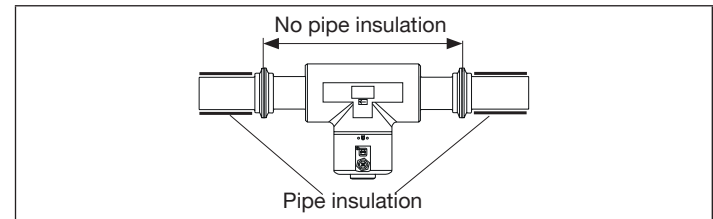
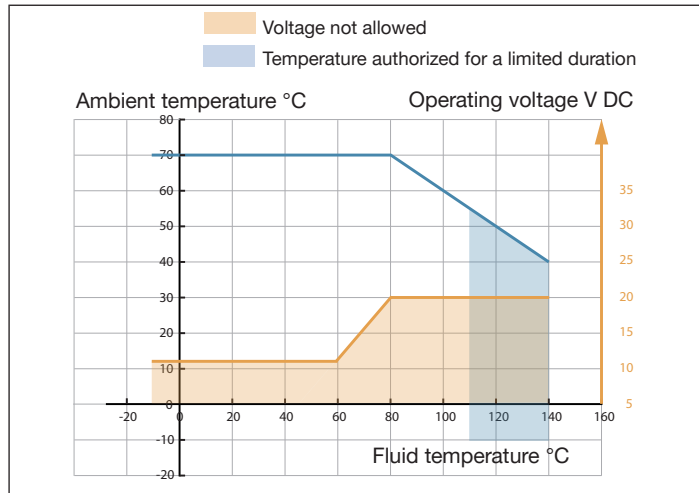

Fig. 10: Thermal insulation of the pipe
Fig. 14: Minimum supply voltage depending on the ambient temperature and the fluid temperature
- If the pipe is fitted with a thermal insulation, do not thermally insulate the measurement tube of the device to make sure that the temperature in the device is less than 70 °C . Refer to “Fig. 10” and “Fig. 14” for the minimum supply voltage.
- Observe minimum supply voltage, see “Fig. 14”.